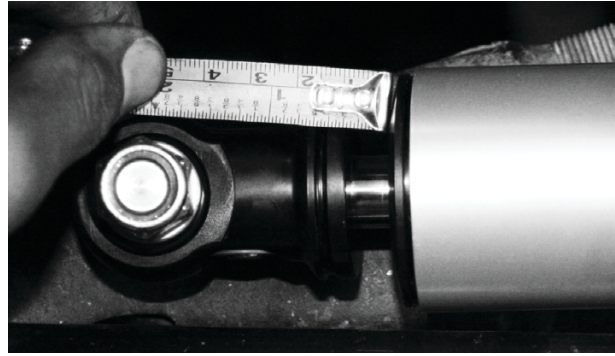

Fig. 2: Eyelet installed with 1/4" of shaft exposed.
4. Compress the stabilizer so 1/4" of shaft is exposed between the eyelet and shock body. For ATS models, turning the adjuster screw on the eyelet fully counter clockwise will make compressing the stabilizer easier (Fig. 2).